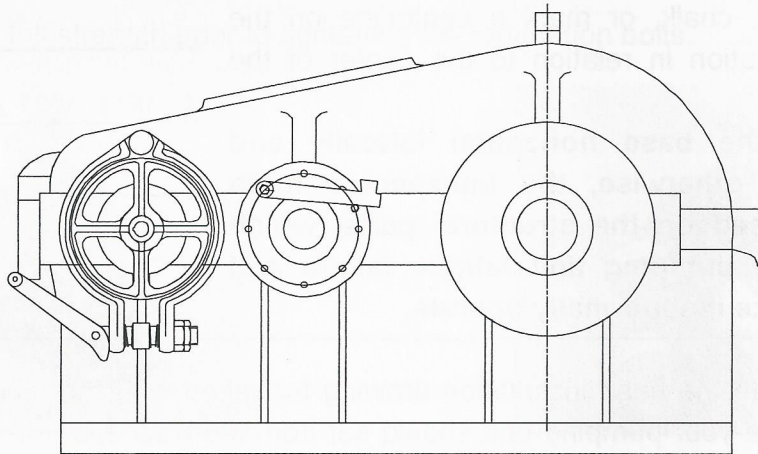

Fig.17: Reducer Assembly Structural Sketch
3.2.15 Reducer Assembly (Fig.17)